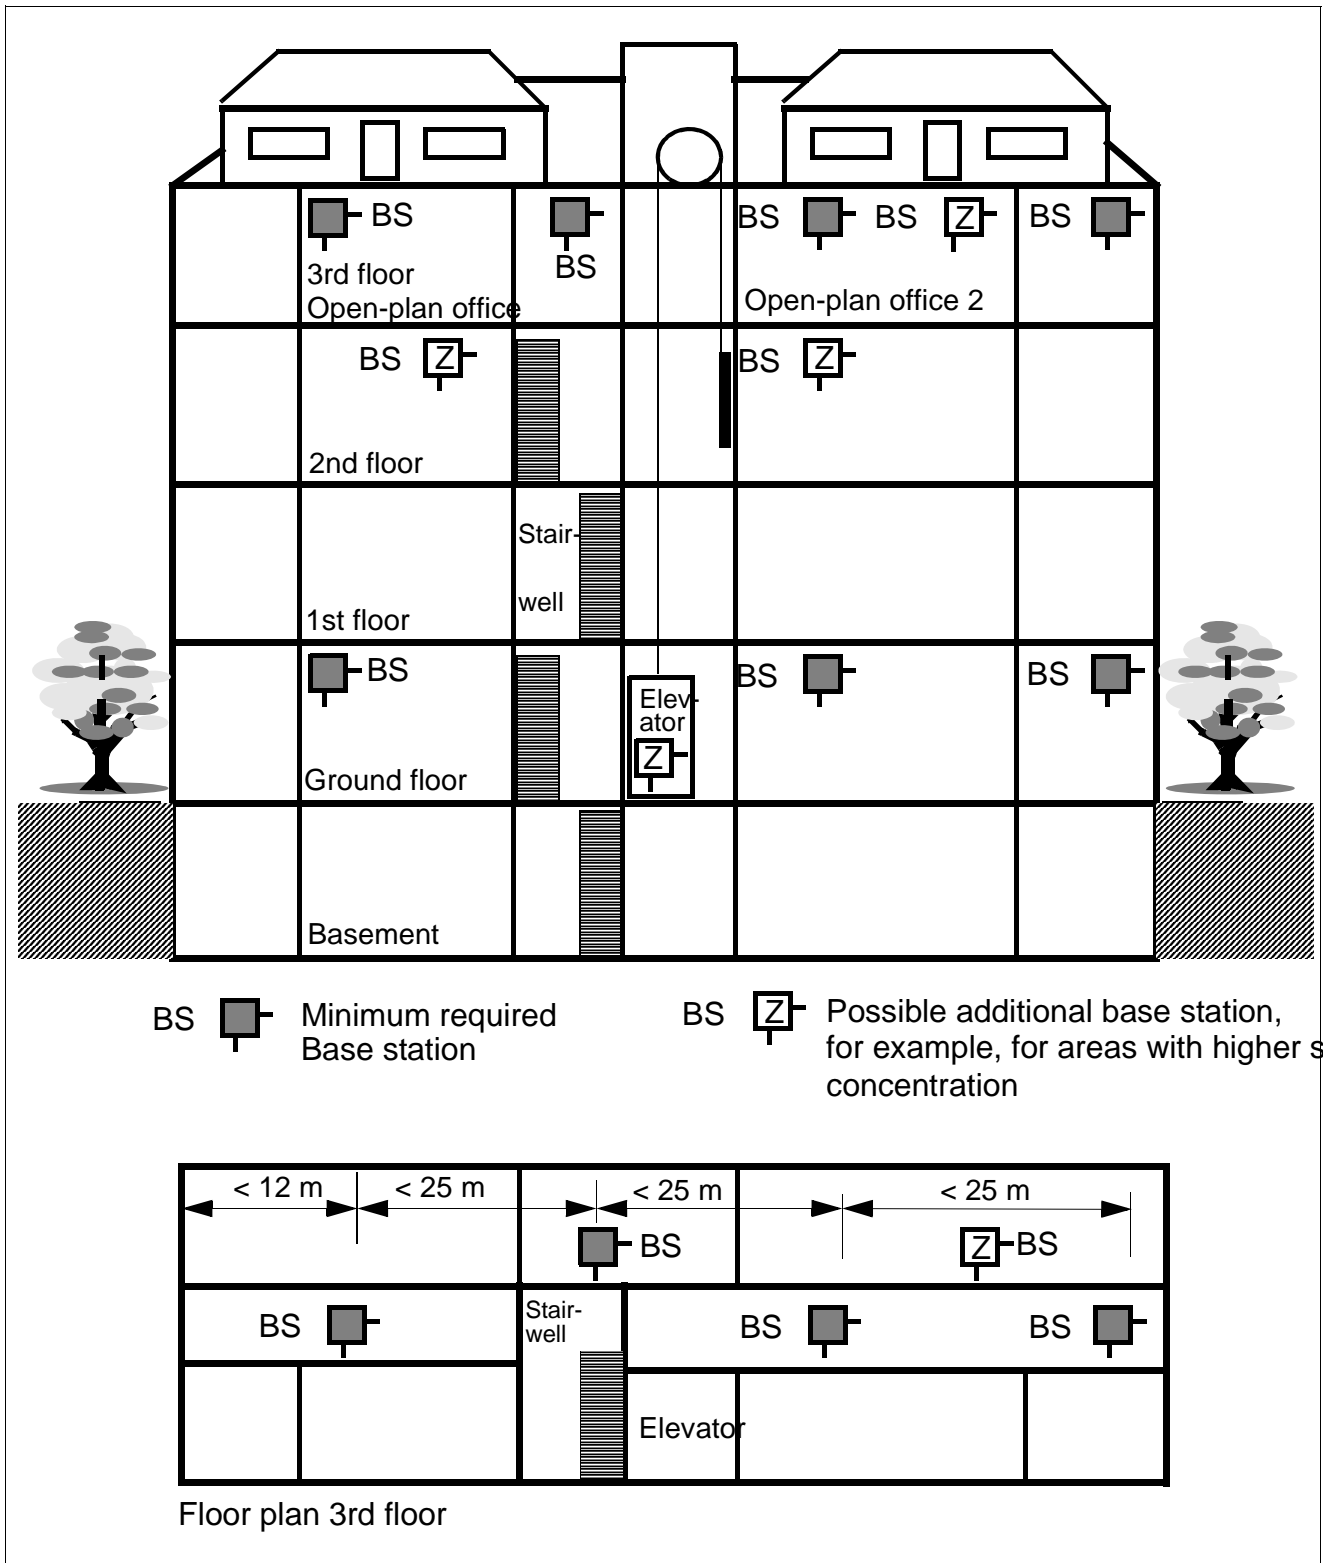

Figure 13 Base station distribution in interiors with concrete and steel dividing walls
- For interiors with concrete and steel dividing walls (Figure 13)
- If additional base stations are needed because of a large number of mobile telephones, see Figure 13.